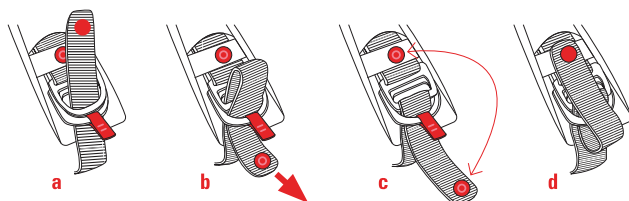

Figure 4
- Take the Chinstrap (8) of the helmet in each hand and pull the ends apart to expand the helmet slightly.
- Hold the helmet over your head, keeping the tension in the Chinstrap (8) ends, and lightly guide the helmet down until the Crown Pad (9a) comes into contact with the top of your head.
- Fasten the Chinstrap (8) securely by inserting the end of the Chinstrap (8) inside the double D ring system following the order set out in Figure 4, page 5, and then pull the Chinstrap (8) tight against your throat. Fasten the Chinstrap (8) as tight as possible, without causing yourself any pain, there should be no slack or space between your chin and the strap. Secure the loose end of the Chinstrap (8) and snap the button until it audibly clicks into place.